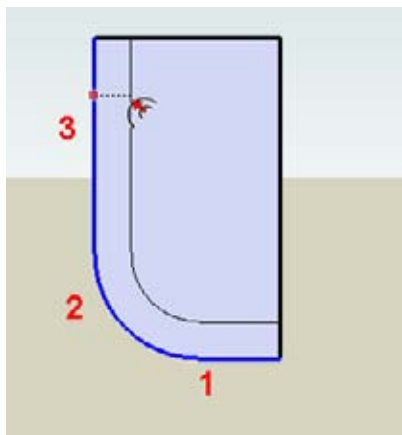

Figure 2-52
2. Select edges 1, 2, and 3, and use Offset to make the inner curves, as shown in Figure 2-52.